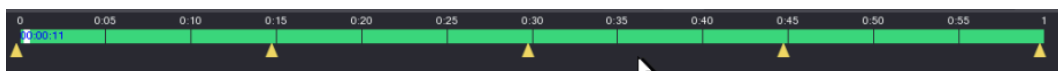

Figure 5-114
**Step 5** Start playing back splices. See Figure 5-114.